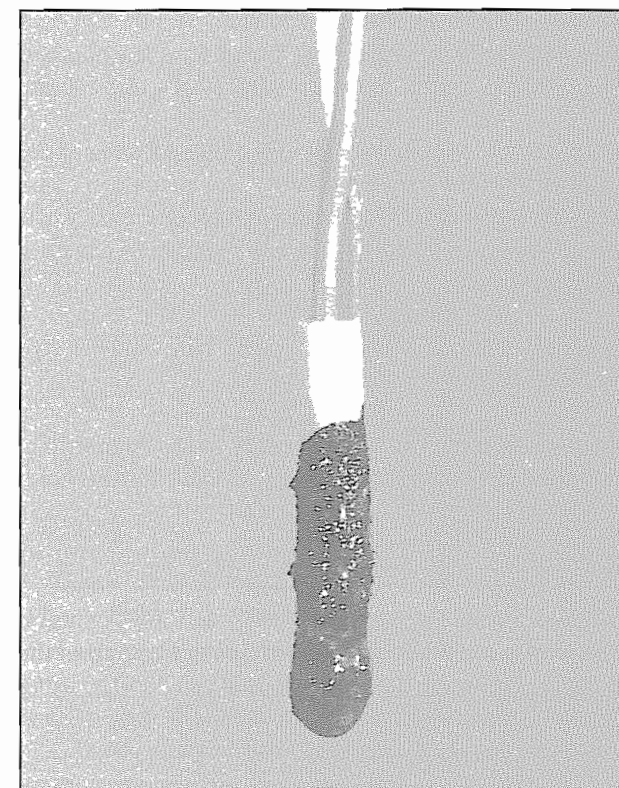

Figure 17-8. The black powder syrup should form a smooth and uniform coating.
2. Dip a paper-match igniter's tip into this black powder syrup, so that the syrup covers all of the tip and some of the masking tape as well. Stir it around gently, and lift it out. If the syrup is the right consistency, the match will come out with a smooth and uniform coating (*Figure 17-8*). If the syrup is too stiff, it will form a thick glob, and you'll have to thin it by adding more water. If the syrup is too thin, it will drip back into the cup, and you'll have to thicken it by adding more powder. Some trial and error will be necessary.